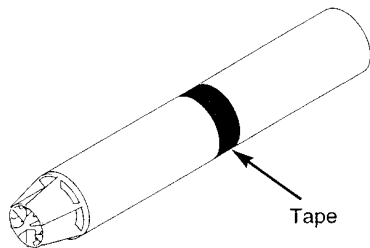

Fig. 30
7. Tape the sections of the outer ducts together with the tape provided ensuring a good seal is made (Fig. 30).